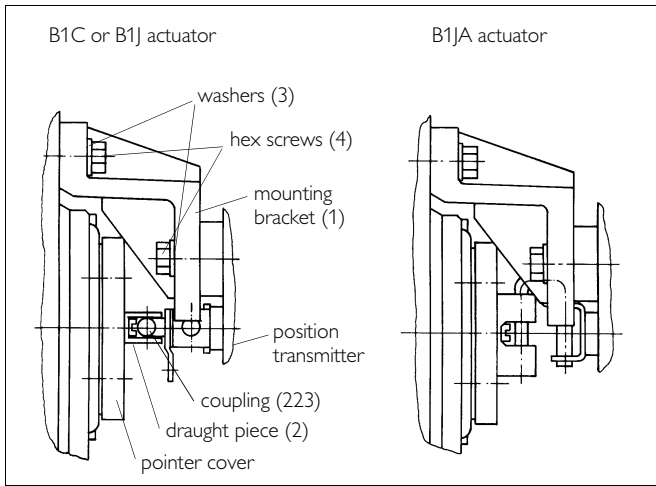
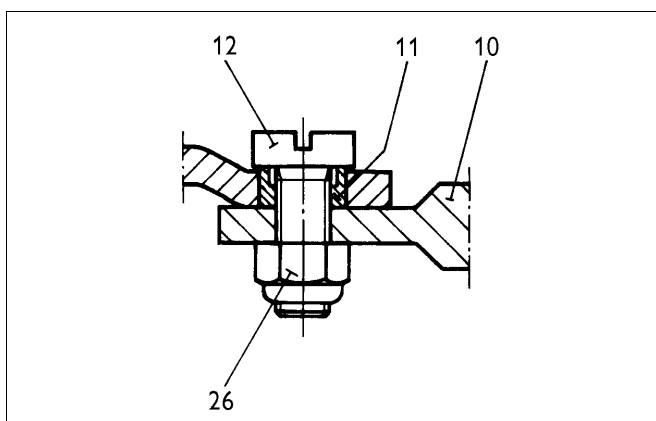

Fig. 5. Installing, S2
Fig. 6. Installing the rod (10)
2. Install the pointer parallel with the valve closure member and fasten the draught piece (2) to the pointer cover with the coupling strap positioned as shown in Fig. 5. Secure the draught piece mounting screw with thread-locking compound (e.g. Loctite) and tighten it properly.
3. Fasten the mounting bracket (1) to the position transmitter. **Note the washers (3)!**
4. Fasten the mounting bracket (1) to the actuator. The mechanical coupling (223) of the position transmitter must be positioned in the draught piece (2) as shown in Fig. 5.
3. Fasten the bracket (5) to the positioner with screw (7) and washer (6).
4. Fasten position transmitter NT700 to the bracket (5).
5. Fasten the rod (10) with screws and bushings (12+11). Turn the bushing (11) onto the screw (12) so that the spacing inside the bushing is placed against the head of the screw, see Fig. 6. Apply the outer sphere of the bushing lightly with Molykote BR2 vaseline (or the equivalent).
6. Tighten the lock nuts (26).
7. Fasten the assembly to the actuator. The mechanical coupling of the positioner must be placed into the draught piece (2) as shown in Fig. 5.
3. Fasten positioner and position transmitter NT700 to the mounting bracket (1).
4. Fasten the rod (10) with screws and bushings (12+11). Turn the bushing (11) onto the screw (12) so that the spacing inside the bushing is placed against the head of the screw, see Fig. 6. Apply the outer sphere of the bushing with Molykote BR2 vaseline (or the equivalent).
5. Tighten the lock nuts (26).
6. Fasten the assembly to the actuator. The mechanical coupling of the positioner must be placed into the draught piece (2) as shown in Fig. 5.